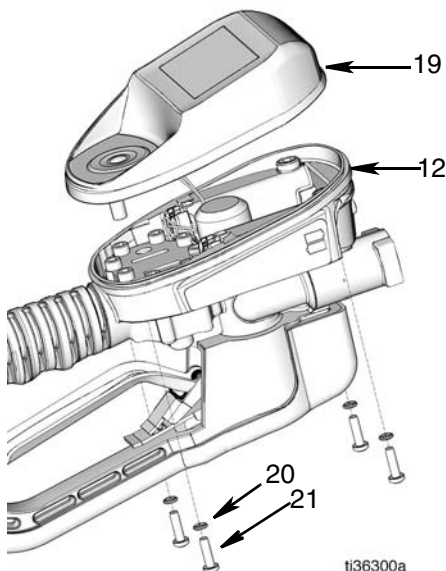

FIG. 30
3. Remove 4 screws (21) and o-rings (20) and carefully lift bezel (19) off housing (12) (FIG. 30).
NOTE: The power will still be connected to the bezel as shown in FIG. 30. Before the bezel can be completely separated from the housing, this connection must be detached.